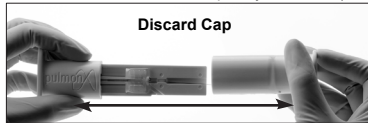

Figure 5 Endobronchial Loader System (ELS) Separation
- b. Pull the Zephyr EBV into the funnel cartridge of the ELS by gently pulling the ends of the ELS apart until the monofilament strand is completely detached (see Figure 5).